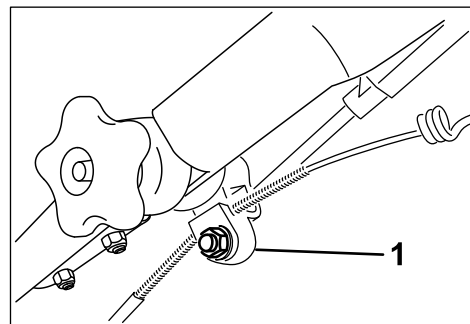

Figure 42
- Loosen the nut on the cable mount (Figure 42).